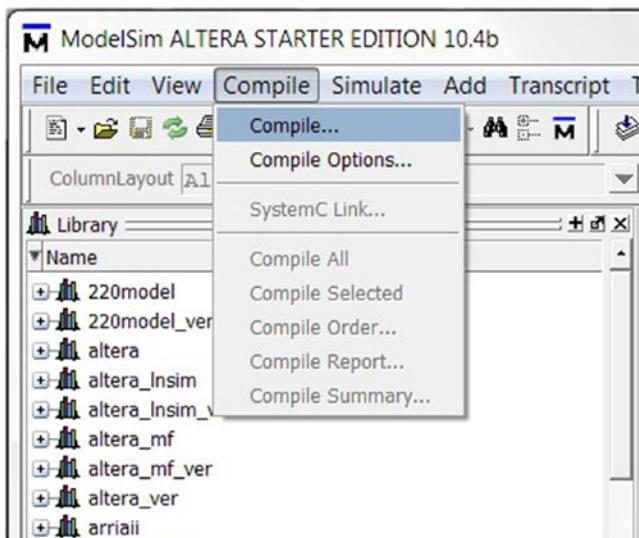
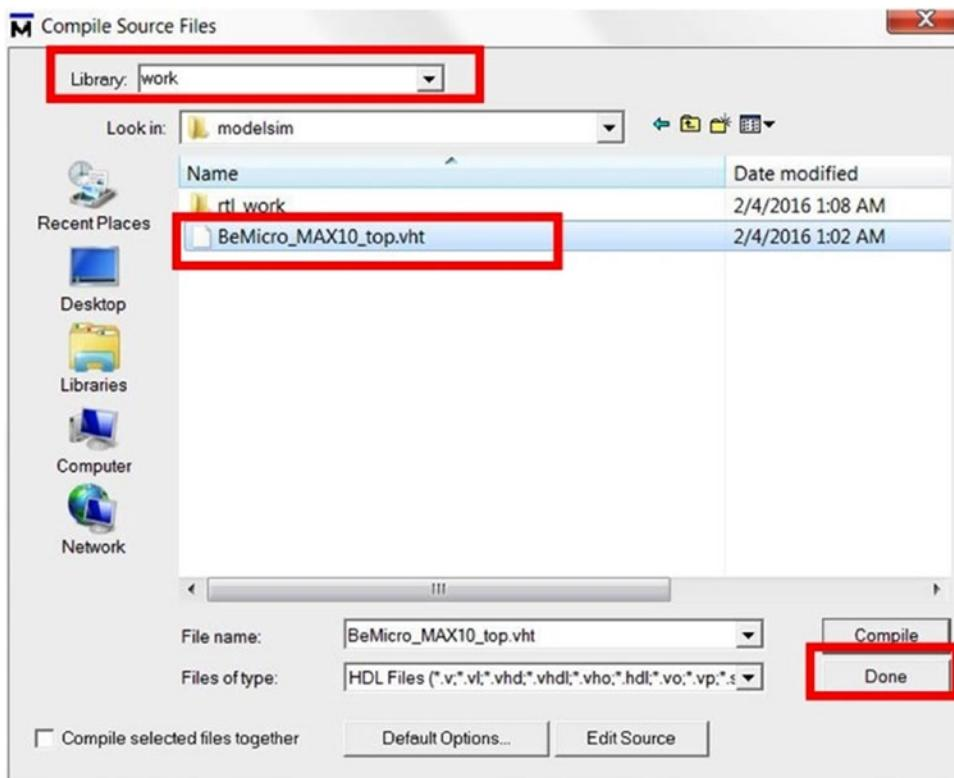

Figure 4-37. Compile test bench from the GUI
Figure 4-38. Compile test bench from the GUI
5. You can compile your test bench using the graphical user interface (GUI) too. Click **Compile > Compile...** from the menu (Figure 4-37). It will open the Compile Source Files dialog. Make sure your settings are the same as shown in Figure 4-38, Select `BeMicro_MAX10_top.vhd` and then click the **Compile** icon. Step 4 and step 5 both compile the test bench file `BeMicro_MAX10_top.vhd` into the **work** library. Click **Done** to leave the dialog.